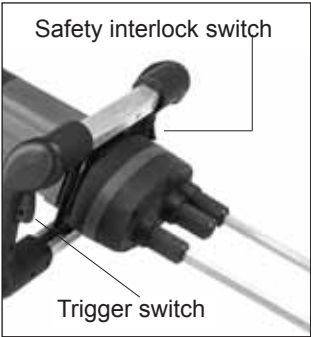

Fig.4
First squeeze the safety interlock switch (93) on the left handle, then squeeze the trigger switch (34) on the right handle to start the machine. Since it is very dangerous for the hand to be caught between the double paddles, the safety interlock switch ensures that both hands are always on the handles. See Fig.4.